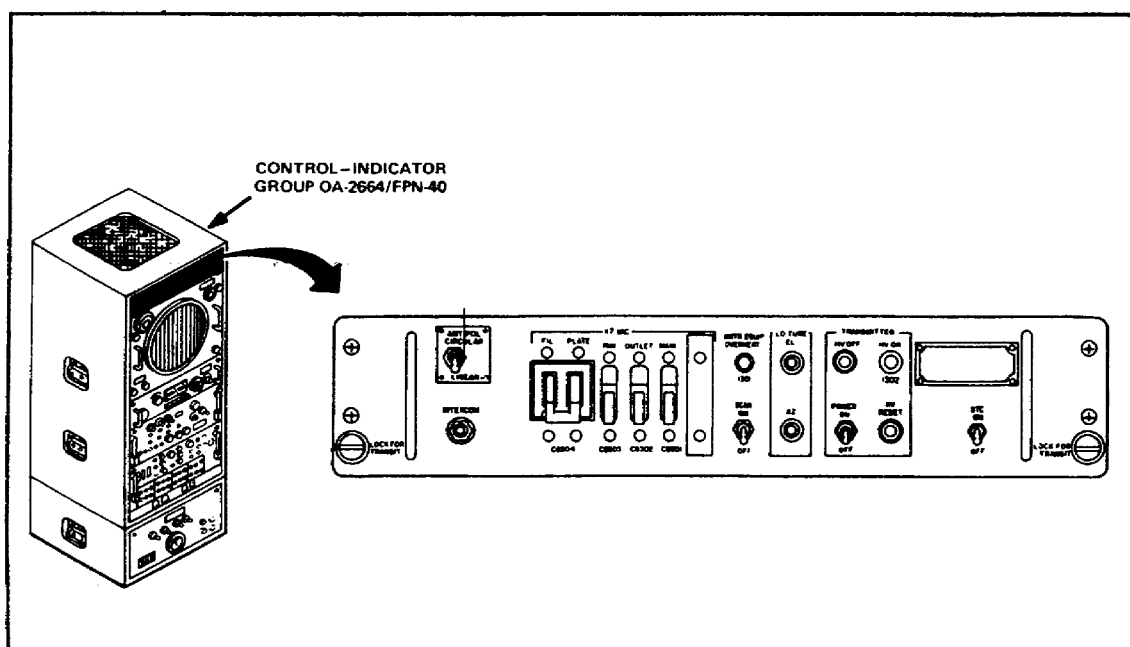

Figure 32. Control-indicator group, panel, power distribution SB-1116/FPN-40.
i. Locate SCAN switch S305 on panel, power distribution SB-1116/FPN-40 on control indicator group OA-2664/FPN-40. (See Figure 32.)
- _____ SCAN switch S305 (Figure 32)